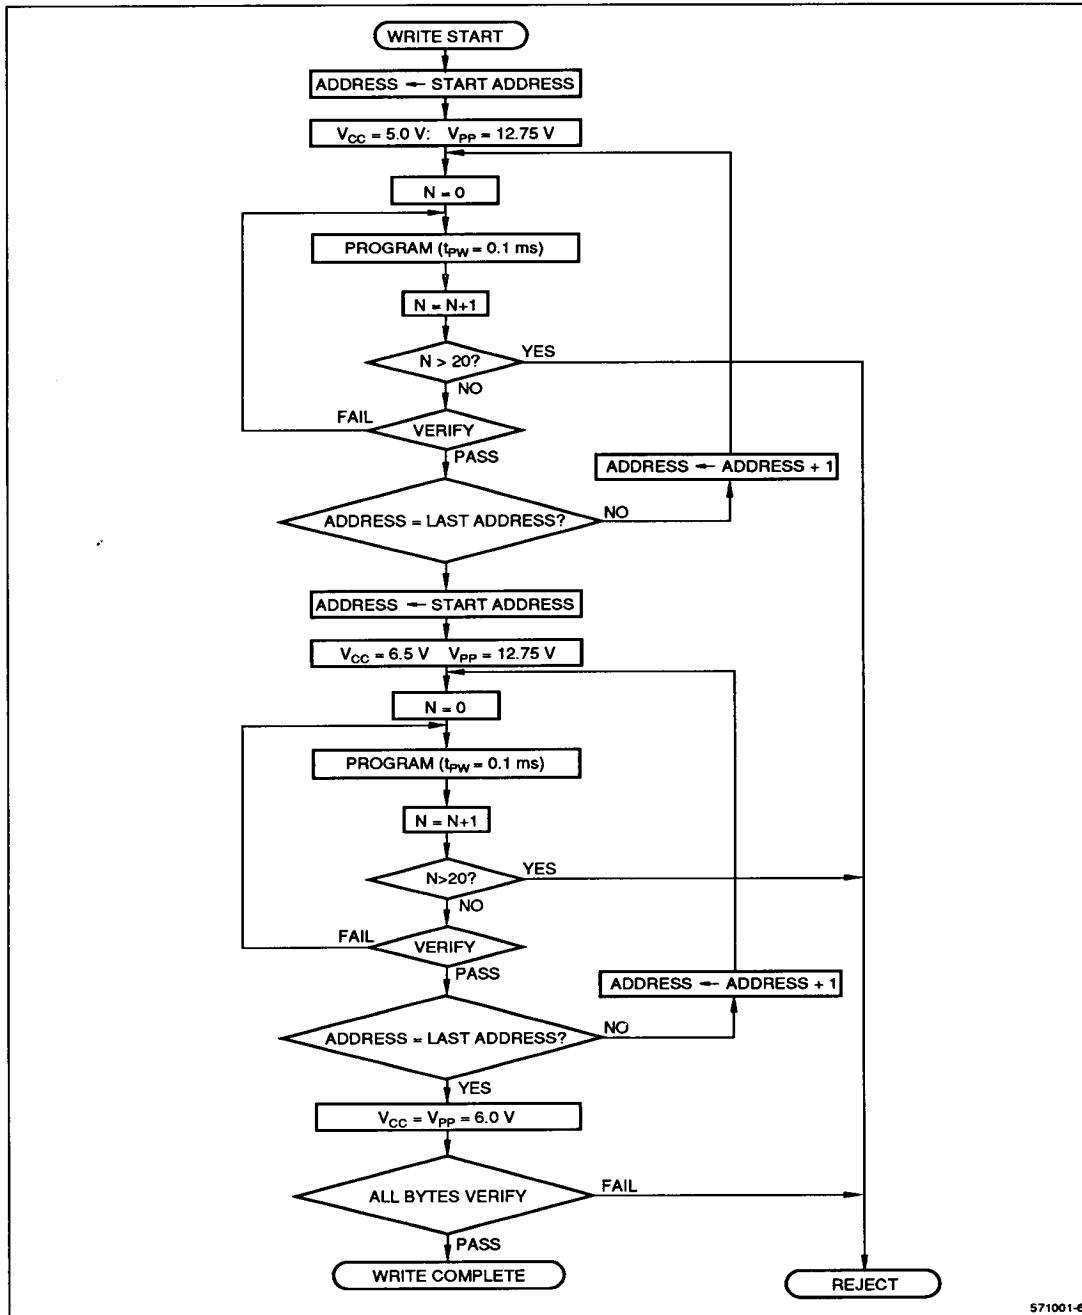

Figure 6. Programming Flowchart
* The pulse width is defined by the Program Flowchart (Figure 6).